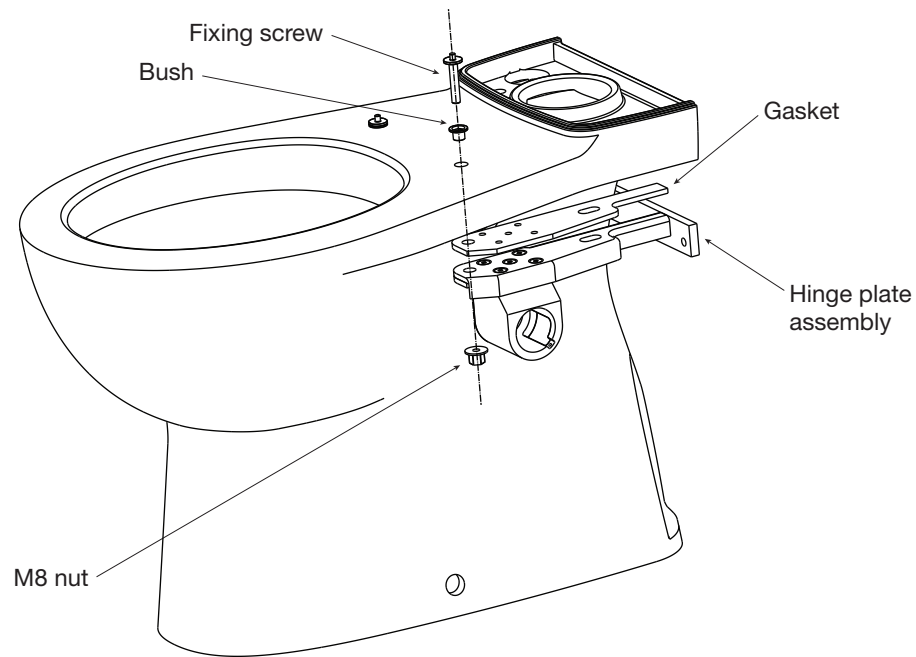

Fig. 5
6. Install two (2) gaskets on hinge bracket. Fix hinge bracket to pan using the supplied front fixing screws as shown above in figure 5. Loosely assemble screws at this point.